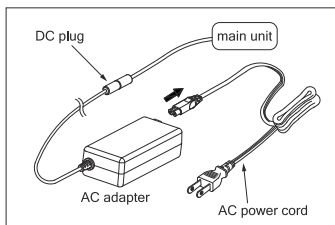

Figure 1
- (1) For MAGNALIGHT, OLIGHT6, OLIGHT5 (Except CL type), SURFLIGHT, SKKL (Except CL type), ENVL (Except CL type), EL270F, ML230F, as shown in Fig. 1 on the right, the AC power cords of these two models can be replaced individually.